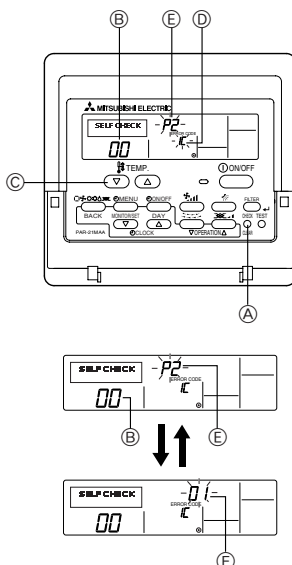

Fig. 6-2
6.3.1. Wired remote controller (Fig. 6-2)
- ① Turn on the power.
- ② Press the [CHECK] button twice.
- ③ Set refrigerant address with [TEMP] button if system control is used.
- ④ Press the [ON/OFF] button to stop the self-check.